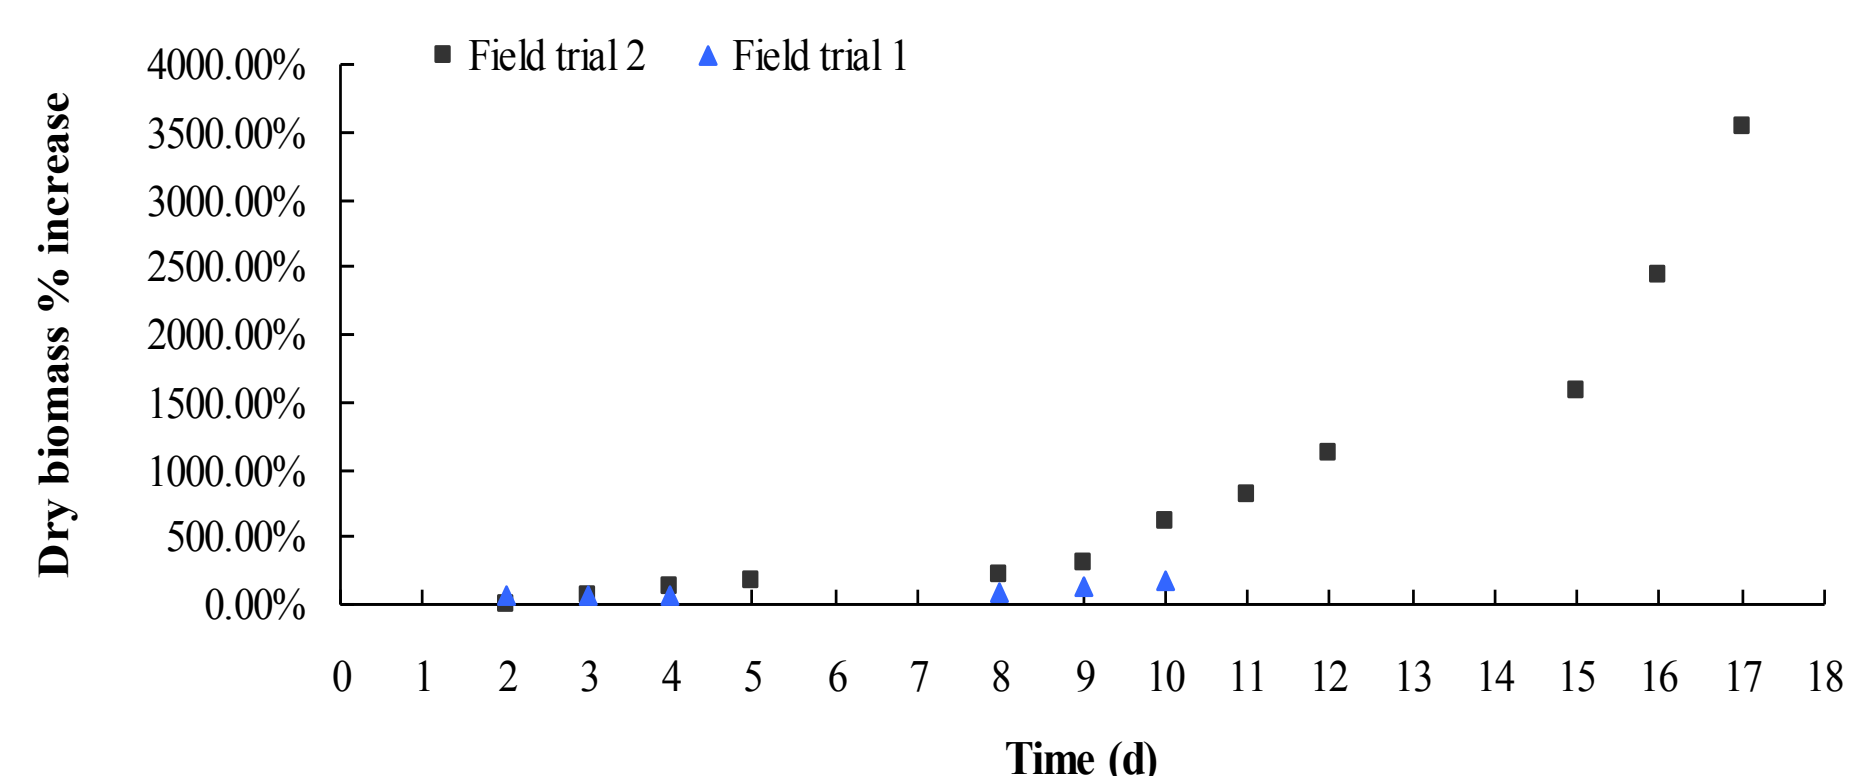

Fig. 7: Algal biomass / bioenergy production
- Algal culture had supra-exponential growth (Fig 7.).